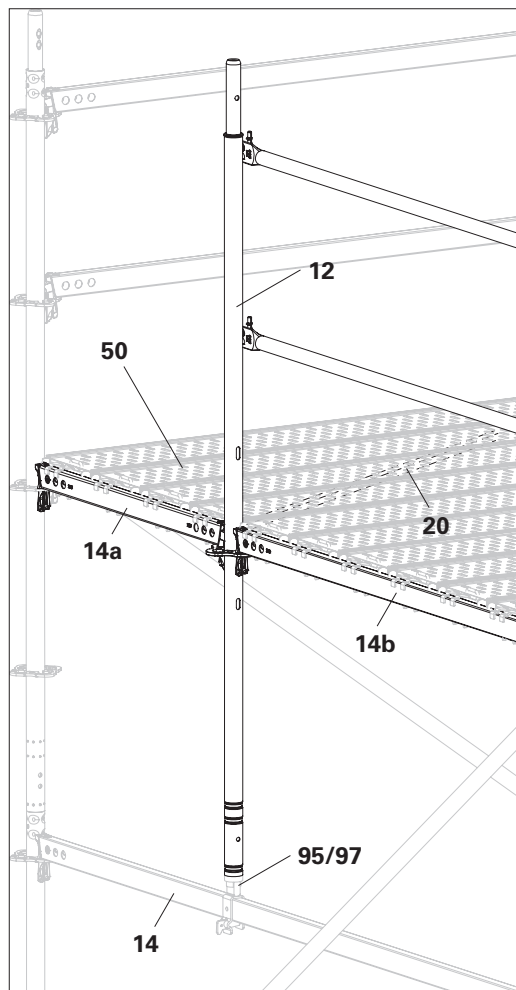

Fig. A11.11
2. Install 2 suitable horizontal ledgers (**14a + 14b**) at platform level. (Fig. A11.11)